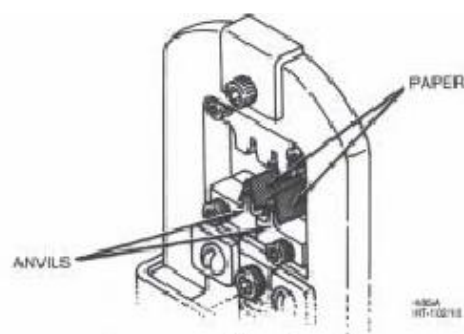

Figure 9
3. Cut out two strips of paper. Then fold the strips in half and place them over the anvils (see Figure 9).